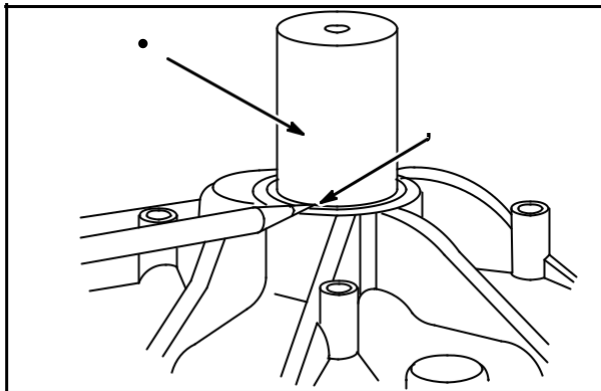

Fig. 6
Insert Bushing Driver **#19450 (1)** into bearing from oil seal side, **Fig. 6**.
Insert Bushing Driver **#19349** into bearing from oil seal side. Place a reference mark on driver to indicate proper depth of bushing when installing new bearing, as shown, **Fig. 6**.